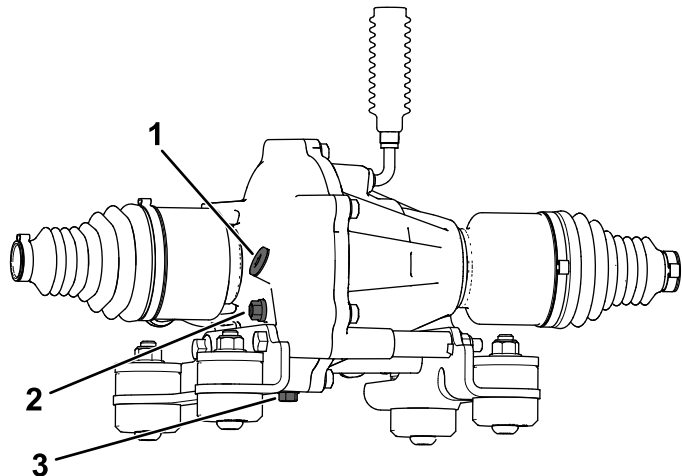

Figure 87
4. Remove the check plug on the front differential (Figure 87).
5. If the oil level is low, you may add the specified oil through the check plug opening (Figure 87).
4. Align a drain pan under the drain plug (Figure 87).
5. Remove the fill plug (Figure 87).
6. Remove the drain plug and allow the fluid to drain completely (Figure 87).